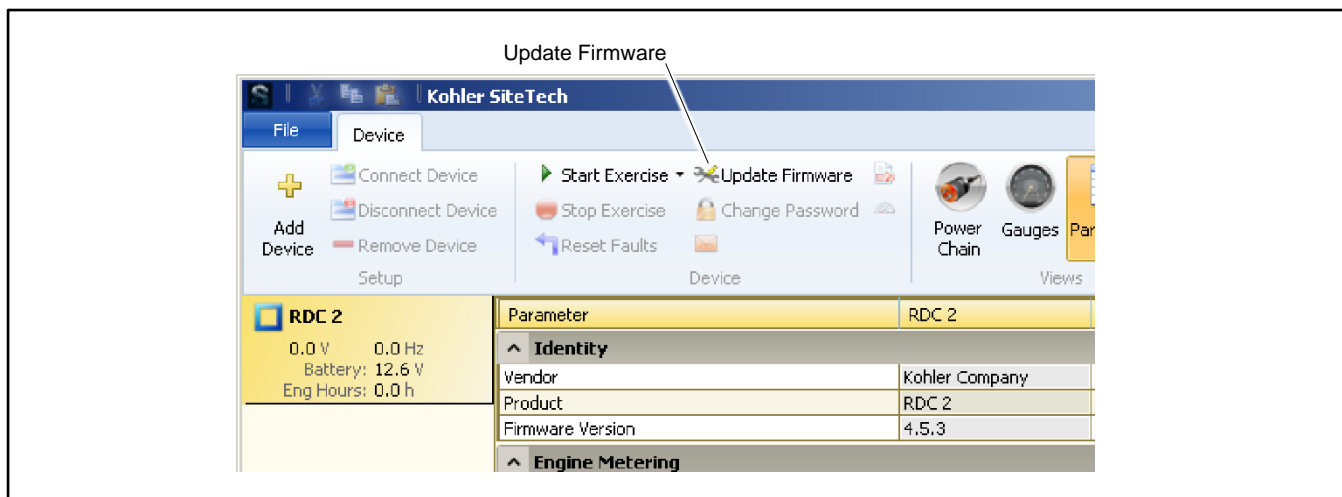

Figure 33 SiteTech Update Firmware Command
4. Click on Update Firmware near the top of the screen. See Figure 33.